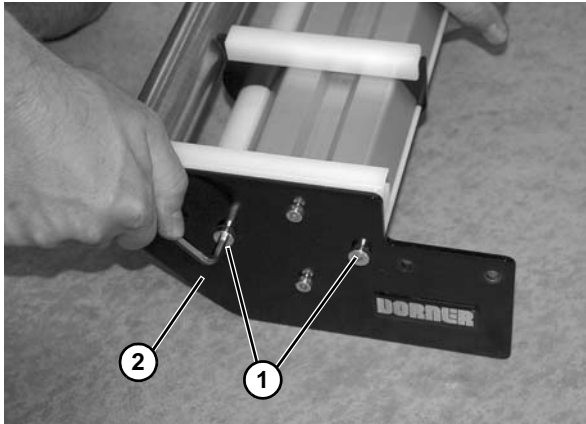

Figure 73
4. Remove two low head cap screws (**Figure 73, item 1**) from plate (**Figure 73, item 2**). Repeat procedure on opposite side.